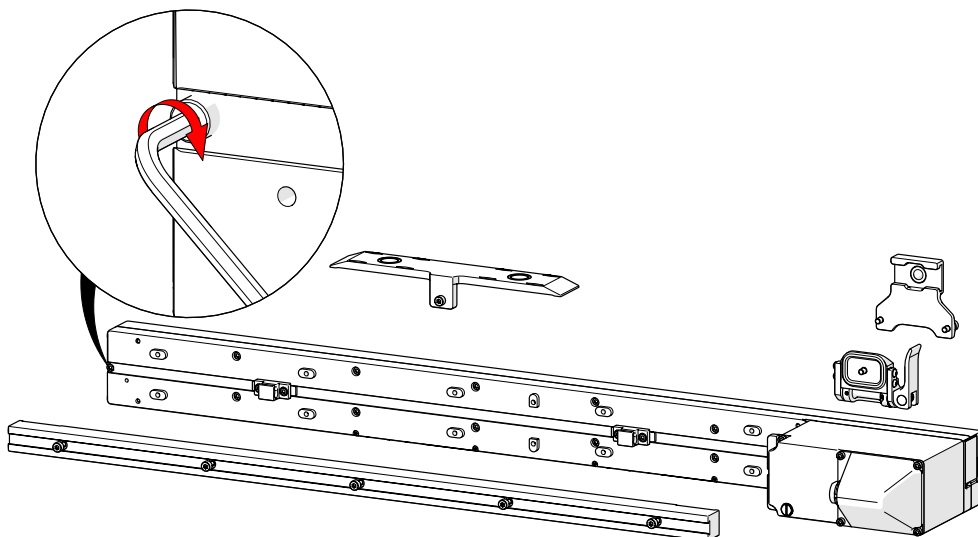

Fig. 152 - Replace socket head cap screw
- 11.** Replace the socket cap head screw at the end of the raster arm (*Fig. 152*).